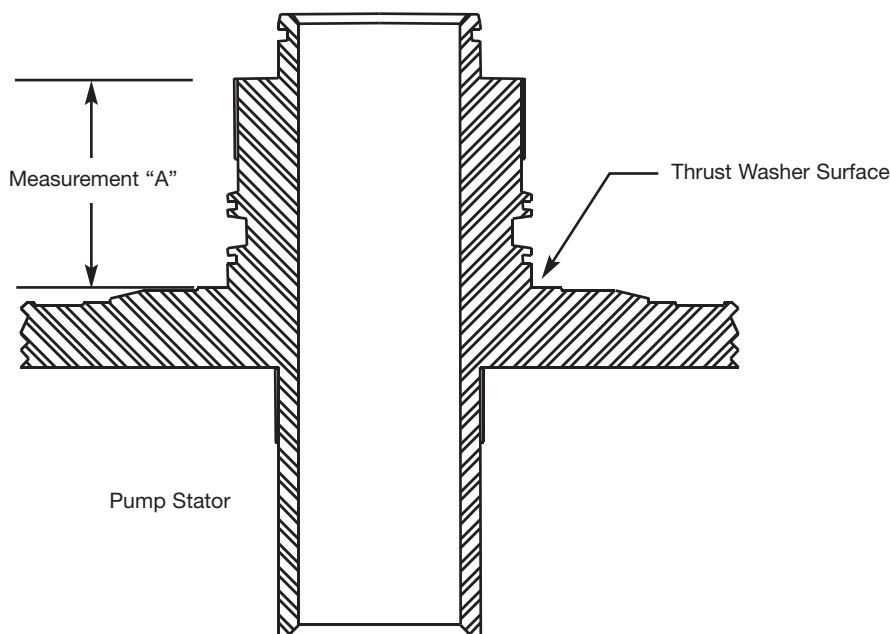

Figure 3
6. Two thrust washers are included in the kit. One is an OEM equivalent, and the second is  $.015"$  (0.38mm) thicker than the OEM. If the thrust washer surface is damaged and it is necessary to use the thicker thrust washer, remove only  $.015"$  (0.38mm) of material from thrust washer surface on the pump stator (see Figure 3).